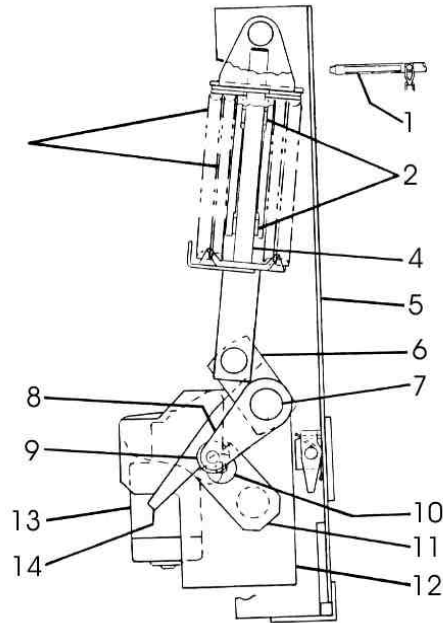

Figure 7
2. Remove the pin which connects the spring charging arm (6), Figure 7, to push rod (4).
4. Remove bearing from end of crankshaft (7), Figure 7. This is done by removing the four special bolts fastening the bearing plate to front channel side. (In reassembling be sure proper alignment and proper shimming is done so that crankshaft does not bind in its bearings.)
5. Remove crankshaft (7), Figure 7.